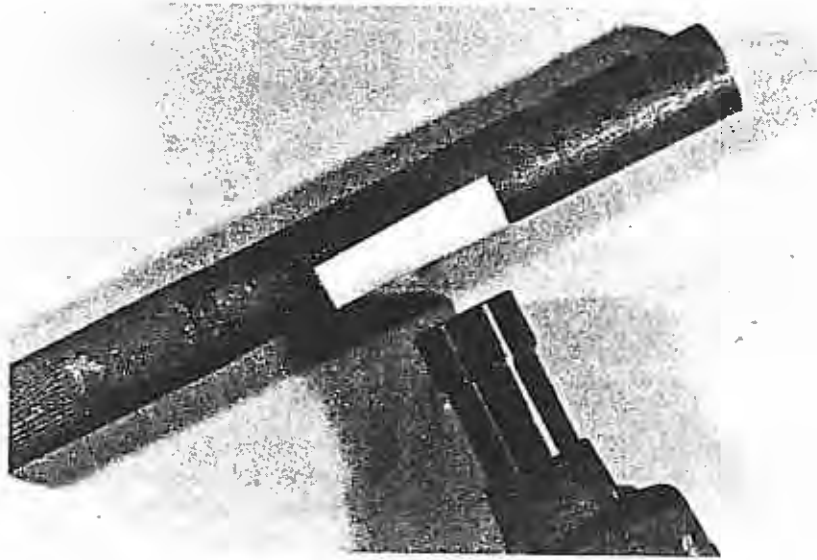

Figure 4.
- 1) This tachometer can be used for almost all situations provided a piece of reflective tape can be attached to the rotating part (Figure 4).